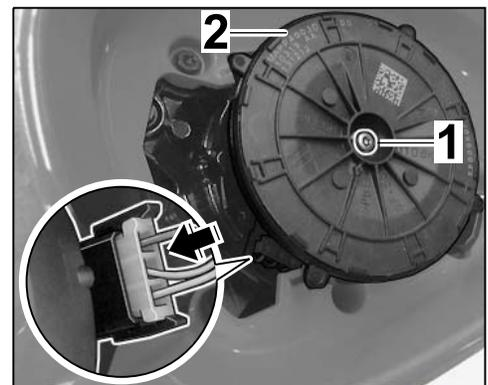

Figure 17
- 4.7.1 Connect plug connection ⇒ *Figure 17 -arrow-*.